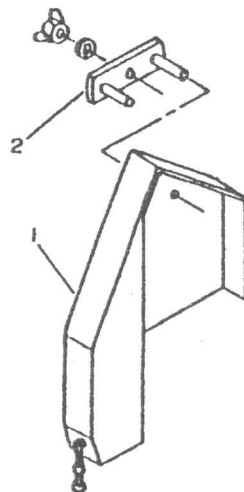
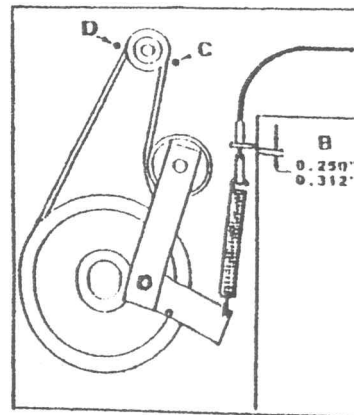

FIGURE 10
FIGURE 11
- g) Engage the clutch belt tightner and install the belt guard (fig. 10, item 1). Secure in place with the rubber latch and install the belt guide stopper (item 2). Secure with lockwasher and wing nut. Disengage the clutch.
- h) Verify if the motor is installed properly. The stopper pin (fig. 10, item 2 & fig. 11, items C & D) will clear the V-belt by 0.125" with the clutch lever in engaged position. If not, loosen the engine mounting bolts and move the engine to the correct position and retighten the bolts.
- j) Verify if the clutch cable is adjusted properly, the distance (fig. 11, item B) should be 0.250" to 0.312" in the engaged position. If not, dismount the hook on the end of cable. Cut the inner cable as required and reinstall the cable end to the spring's hook. Reverify the adjustment. If there is not enough tension on the spring idler, the V-belt will slip and be ruined.
IMPORTANT: Never install the stopper belt guide (fig. 10, item 2) without engaging the clutch first, otherwise the belt guide pin will touch the belt and ruin it.
Remove the stopper belt guard (fig. 10, item 2). Remove the belt guard (item 1), replace the shearbolt on the shaft (see page 16, item 22). Use 5 X 45mm bolt with 1/2" shoulder, part number 102038. Reinstall the belt guard in place and secure with the rubber latch. Engage the clutch belt tightener by pulling the clutch lever. Install the stopper belt guide and secure with lockwasher and wing nut.